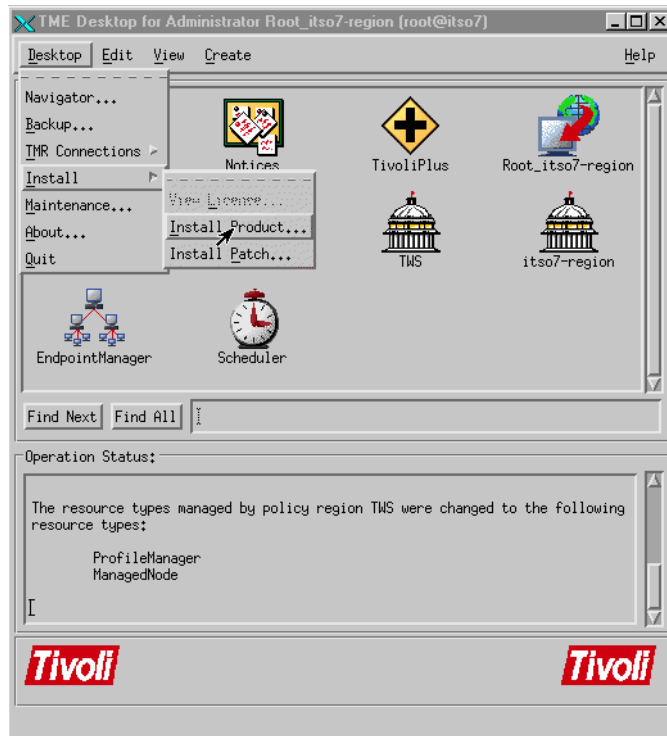

Figure 48. Install Product
18. Select **Desktop->Install->Install Product** to install Job Scheduling Services as shown in Figure 48 on page 65.